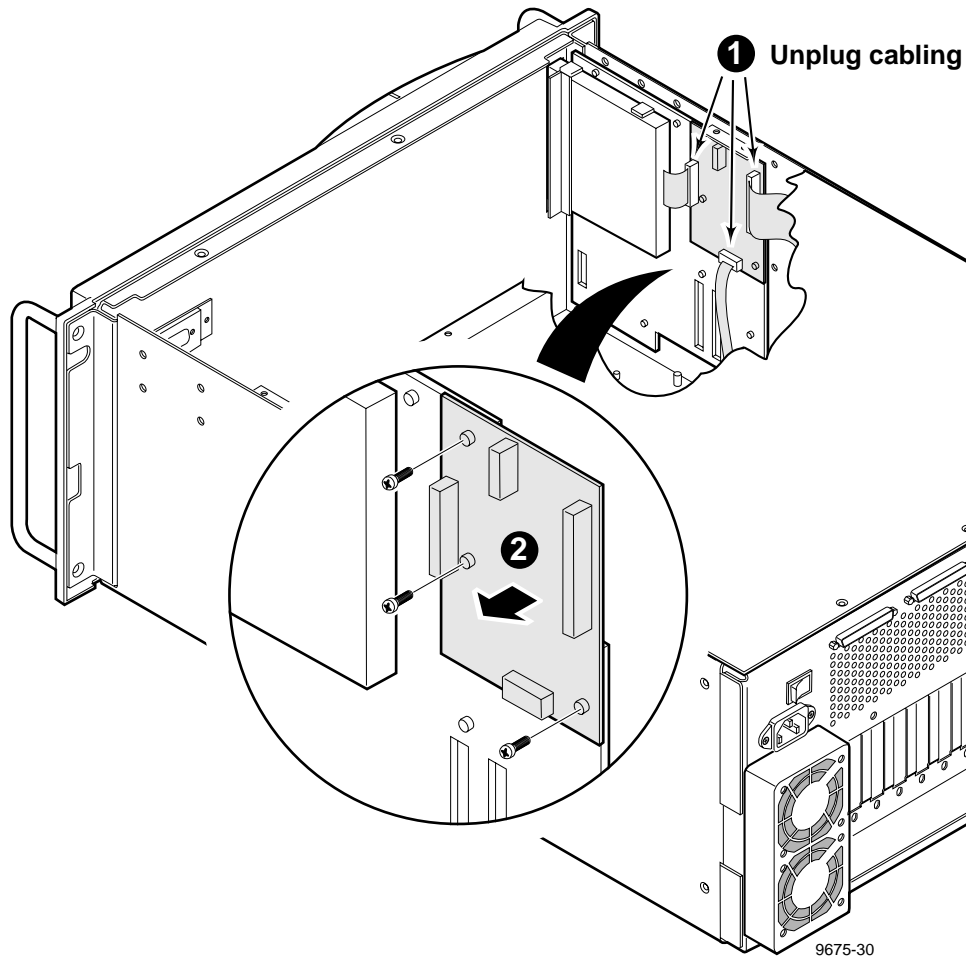

Figure 6-14. Removal of the Distribution Board
3. Disconnect the remaining cables from the Distribution board (1 in Figure 6-14).
4. Use the Torx tool with the T15 tip to remove the screws which attach the Distribution Board to the plate at the side of the chassis (2 in Figure 6-14).